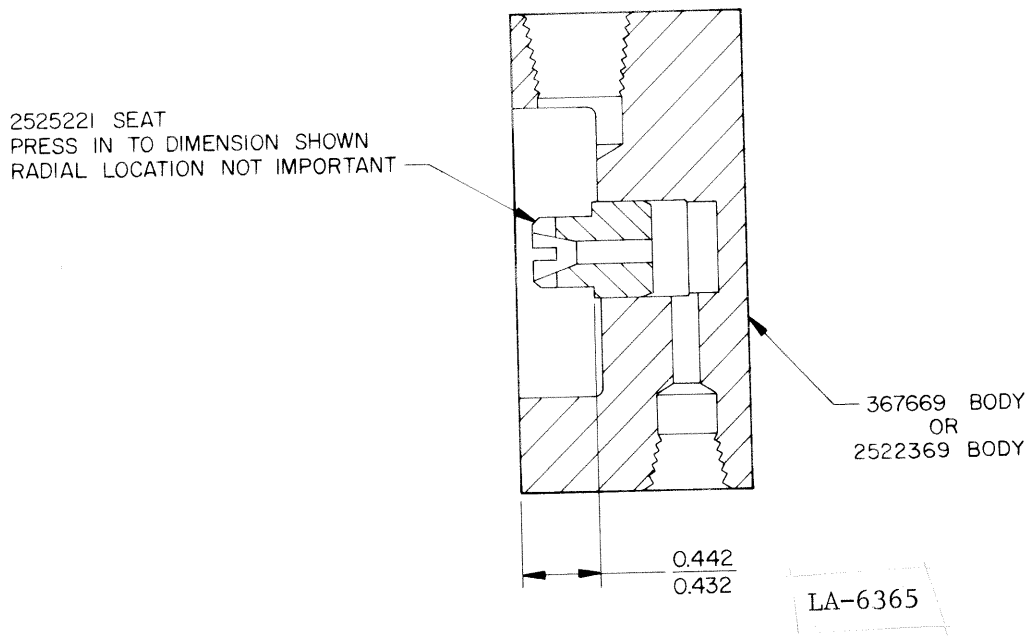

Figure 1.
- (3) Press the part number 2525221 seat into the cover (26) with an arbor press to the dimension indicated in figure 1 of this directive. Wipe excess sealant from the bushing and cover, with MEK or acetone.